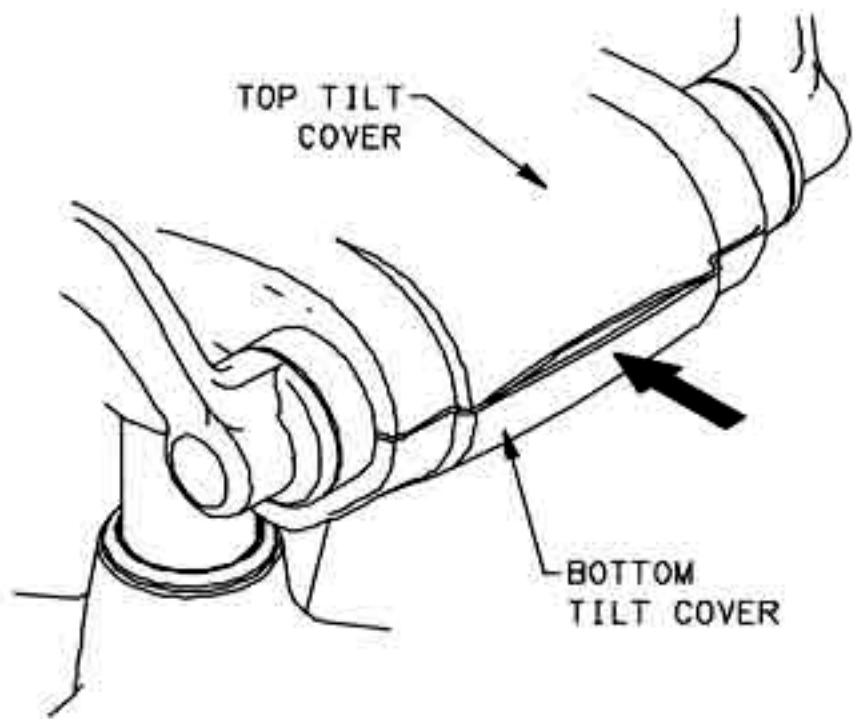

FIGURE 1
1. APPLY THUMB PRESSURE ON FRONT OF BOTTOM TILT COVER TO START SEPARATION OF TILT COVERS. INSERT 1" PUTTY KNIFE BETWEEN TOP AND BOTTOM COVERS AND TWIST TO COMPLETELY SEPARATE HALVES. REMOVE TOP COVER AND DISPOSE OF PROPERLY. SEE FIGURE 1 AND 2